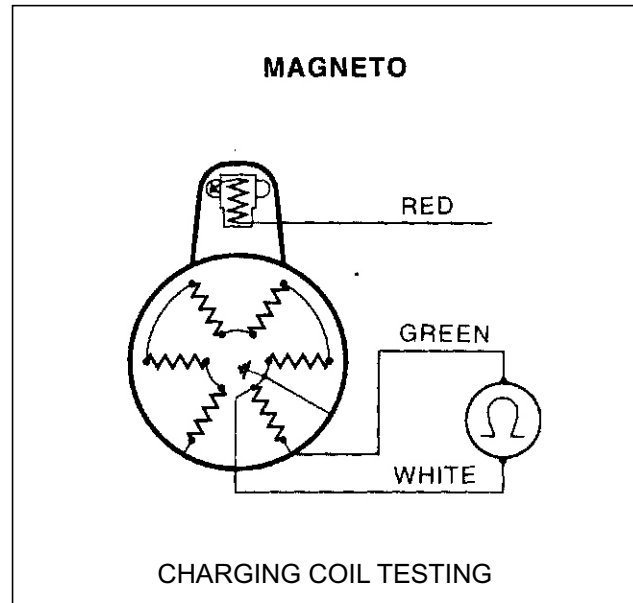

Fig. 10
- (i) Checking the ohmic value across Green and White wire which should be : $390 \pm 20 \Omega$. (Fig. 10)